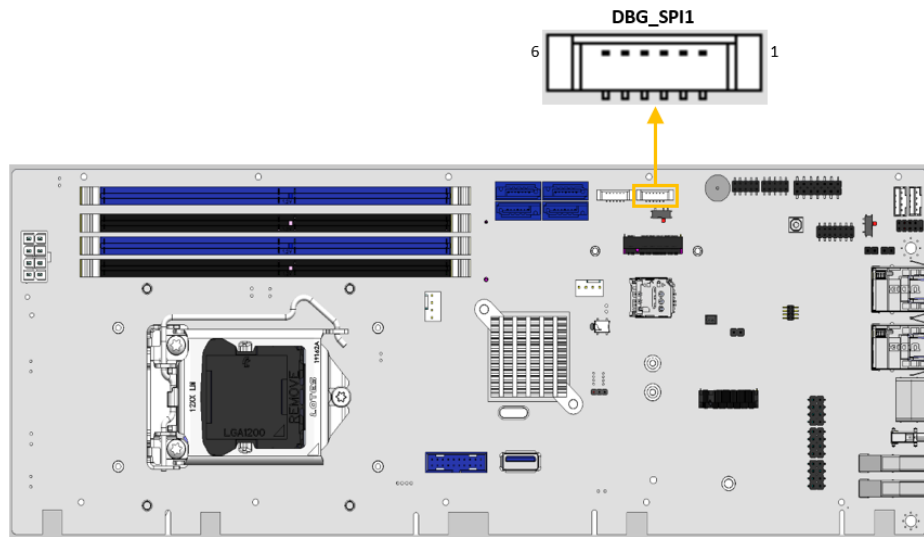

Figure 3-6: EC Debug Connector Location
- CN Location:** See Figure 3-6